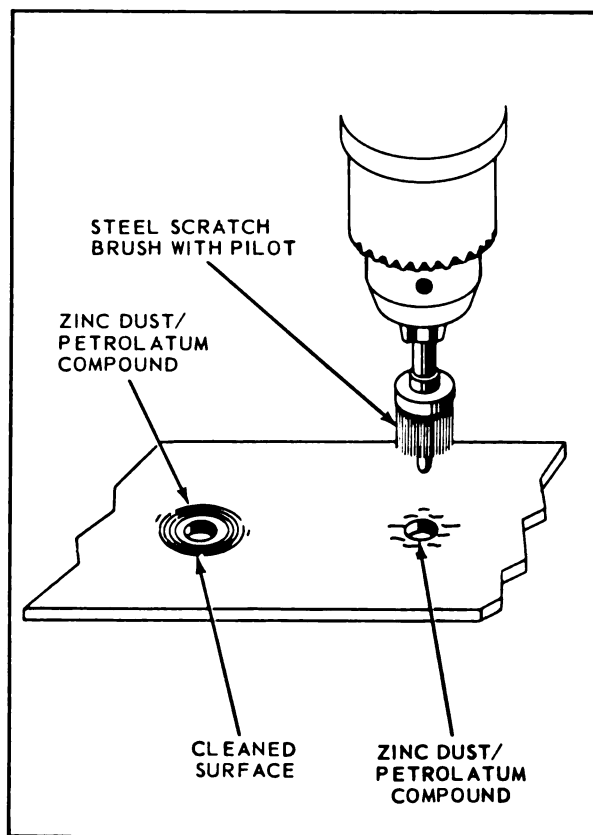

Figure 13-1. Scratch Brushing Unplated Aluminum Alloy Busbars
b. Scratch brush the coated areas, using a rotary steel wire brush with a pilot as shown in figure 13-1. Brush through the compound.